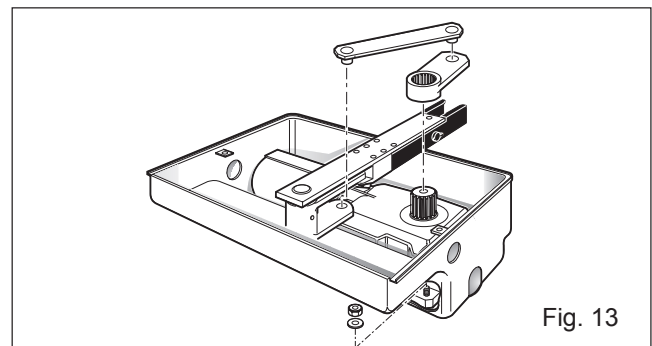

Fig. 13
2. Place the operator on the fastening screws on the foundation box, and fix it by means of the supplied nuts and washers (Fig. 13).
3. Manually close the leaf and fit the driving levers supplied, as shown in Fig. 13.